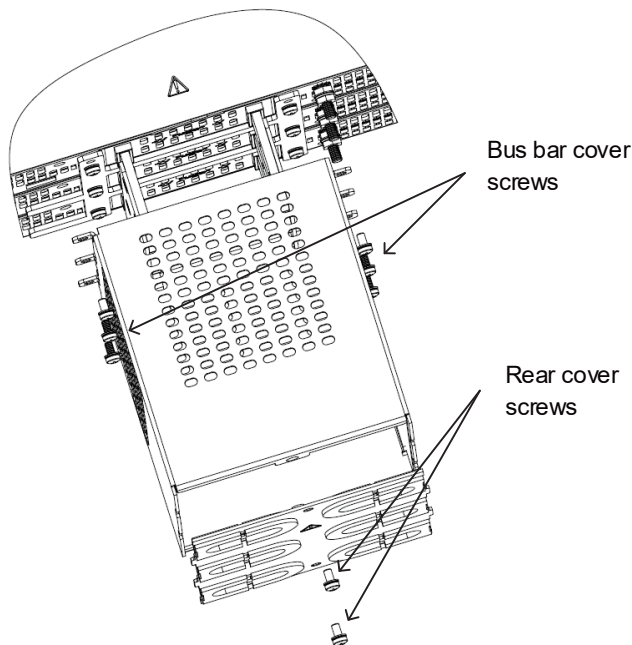

Figure 4-66: Disassembly of Output Protection
1. Open the output protection assembly by unscrewing bus bar cover and rear cover screws as shown in Figure 4-66 (15kW is shown, it applies to 10kW as well. For 10kW, there are 4 Bus bar protection cover screws only).